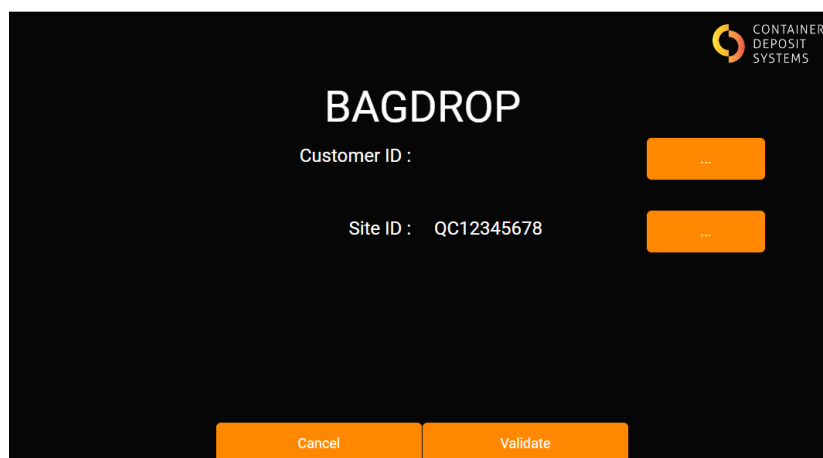

Figure 25 Bag-Drop site ID
- The screen will change to the Bag-Drop menu and the Site ID will be automatically entered as seen on Figure 25 Bag-Drop site ID (be aware Site ID will differ for each site)